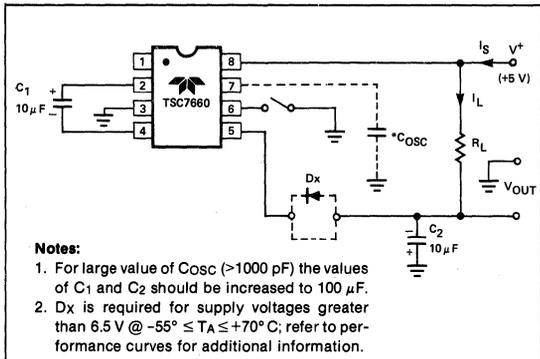

Figure 1: TSC7660 Test Circuit
**Operating Characteristics** V+ = 5 V, TA = 25° C, COSC = 0, Test Circuit Figure 1 (unless otherwise specified)
Typical Performance Characteristics (Circuit of Figure 1)
Note that the curves on the right include in the supply current that current fed directly into the load ( $R_L$ ) from  $V^+$  (see Figure 1). Thus, approximately half the supply current goes directly to
- Add diode DX as shown in Figure 1 for high-voltage, elevated temperature applications. A1N914 diode is suitable.